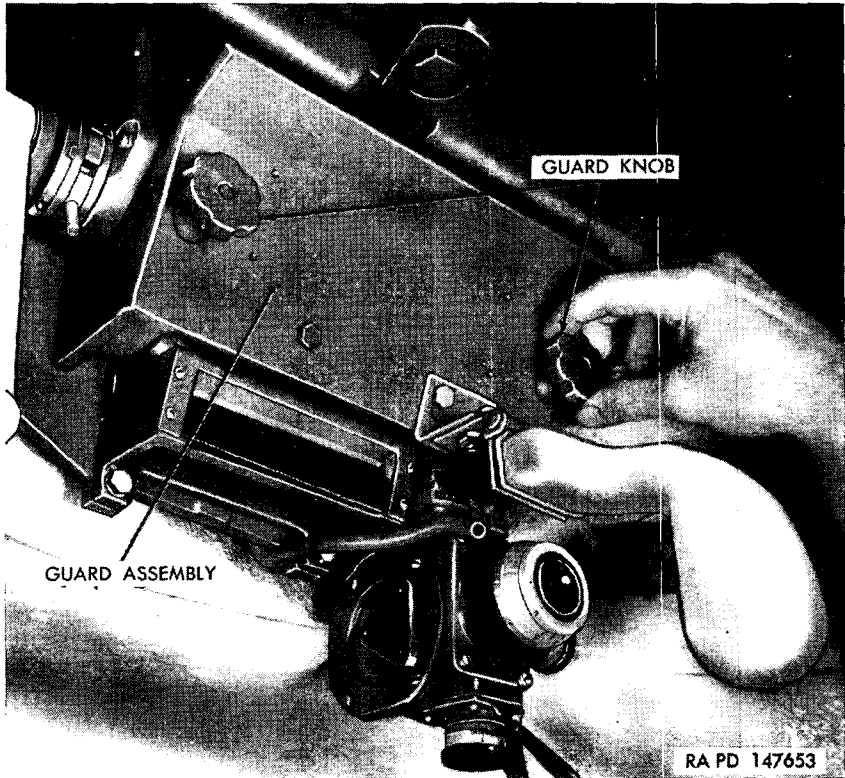

Figure 63. Removing guard on commander's periscope mount T177.
- (2) Remove the guard assemblies from the periscope mounts by loosening the two guard knobs (fig. 63).